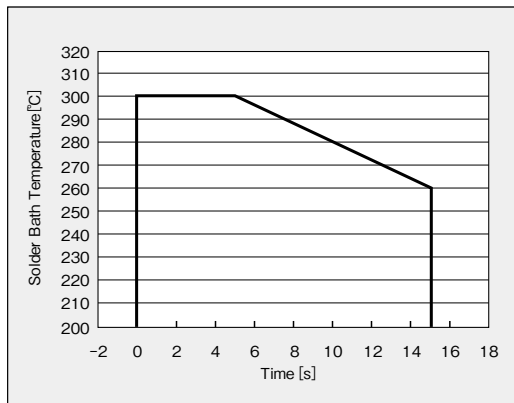

Figure.2 (Reference) Conditions of Dip Soldering
③ Soldering conditions
- (1) Dip soldering conditions: Within range shown in Figure 2.